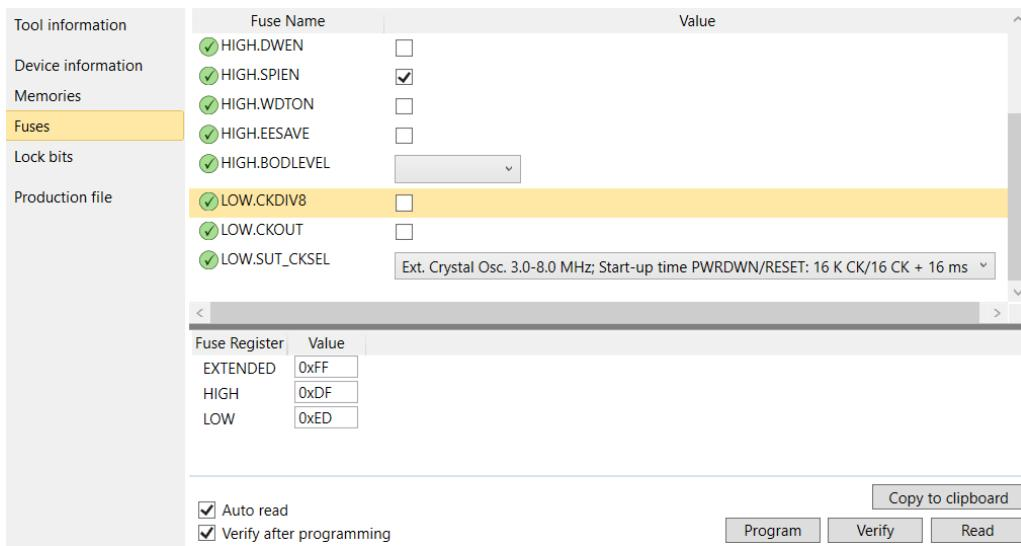

Figure 12: Fuse settings in the device programming menu.
6. Click on the *Fuses* tab—we will first set the clock settings of the microcontroller by adjusting its so-called fundamental "fuse bits". Scroll down and make sure that the fuse *LOW.CKDIV8* fuse is disabled. In addition, set the *LOW.SUT.CKSEL* fuse to *Ext. Crystal Osc. 3.0-8.0 MHz*.... See Fig. 12.